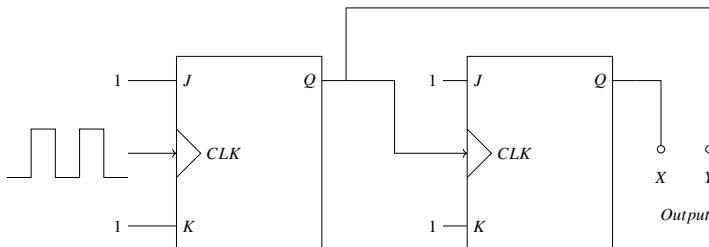

Fig. 5.17
17. The circuit shown in Fig. 5.17 below uses ideal positive edge-triggered synchronous  $J - K$  flip flops with outputs  $X$  and  $Y$ . If the initial state of the output is  $X = 0$  and  $Y = 0$  just before the arrival of the first clock pulse, the state of the output just before the arrival of the second clock pulse is (GATE IN 2019)